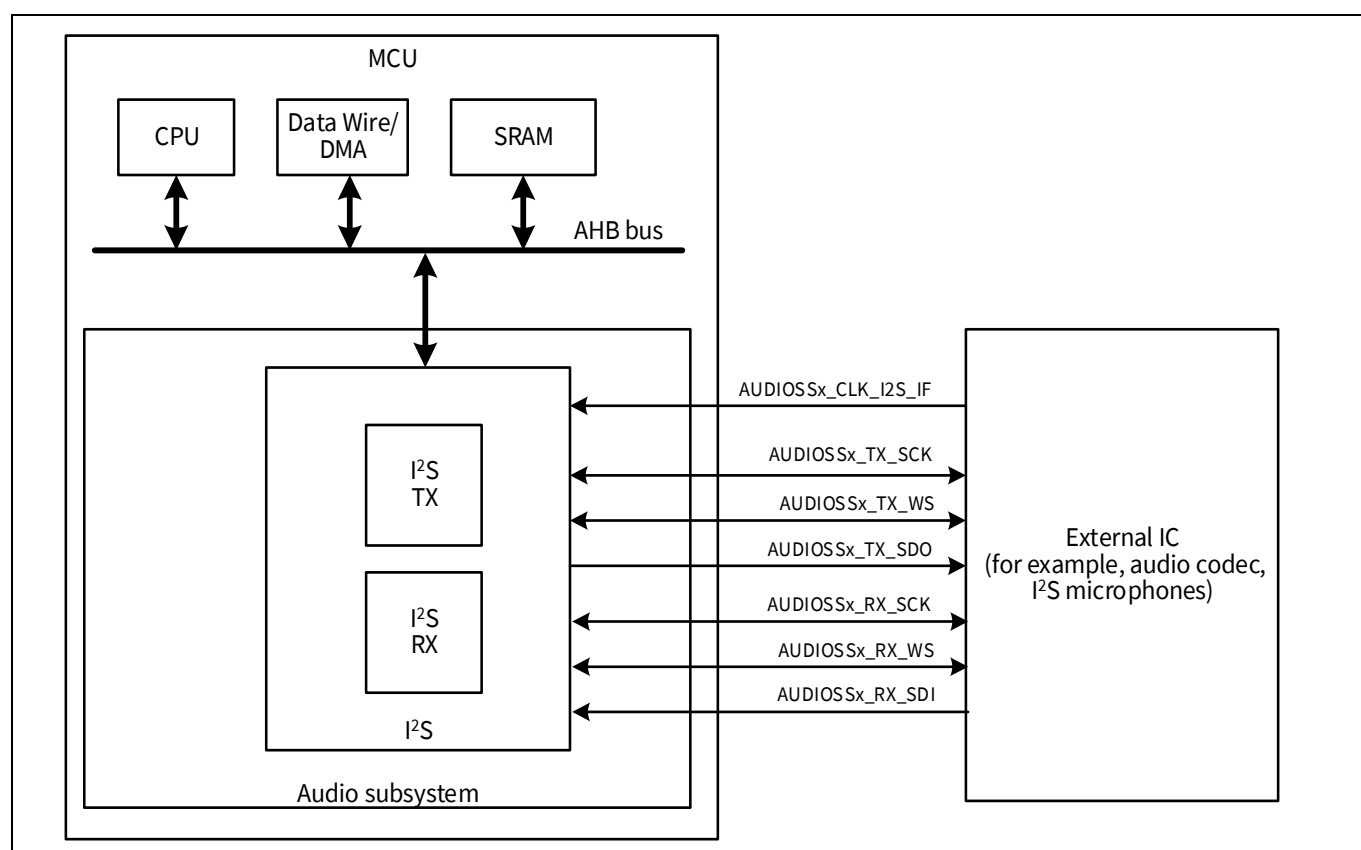

Figure 32-1. I²S block diagram
Figure 32-1 shows the high-level block diagram of the I²S block, which consists of two sub-blocks – I²S transmitter (TX) and I²S receiver (RX). The digital audio interface format and master/slave mode configuration can be done independently for the TX and RX blocks. In the master mode, the word select (WS) and serial data clock (SCK) are generated by the I²S block in the MCU. In the slave mode, the WS and SCK signals are input signals to the MCU, and are generated by the external master device. The I²S block configuration, control, and Status Registers, along with the FIFO data buffers are accessible through the AHB bus. AHB bus masters such as CPU and DMA can access the I²S Registers through the AHB interface. Refer to the device datasheet for information on port pin assignments of the I²S block signals and AC/DC electrical specifications.